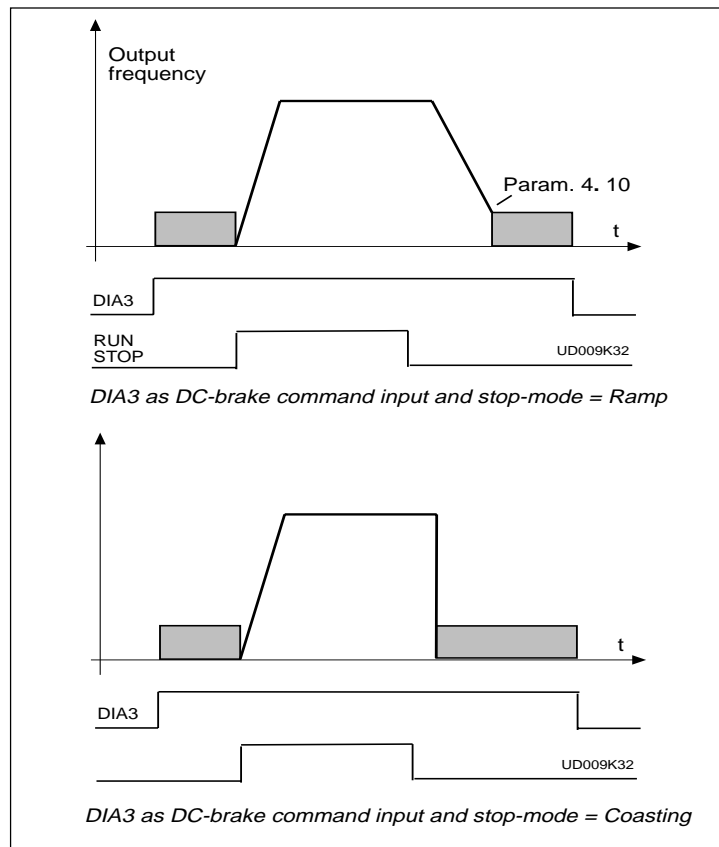

Figure 6.5-1 DIA3 as DC-brake command input:
- 9: DC-braking command contact closed = In the stop mode, the DC-braking operates until the contact is opened, see figure 6.5-1. DC-brake current is set with parameter 4. 8.